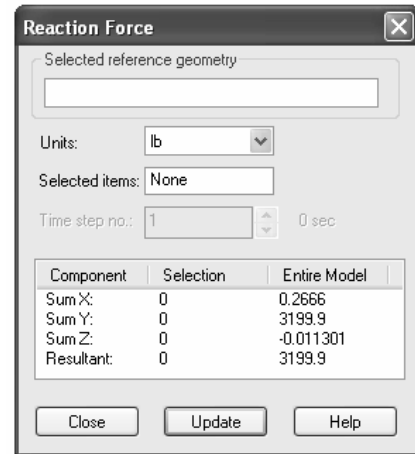

Figure 25 – Data appearing in the **Reaction Force** property manager.
2. From the pull-down menu, select **Reaction Force...** The **Reaction Force** property manager opens as shown in Fig. 25.
It should be noted that a *moment* reaction at the base of the curved beam is missing from the **Reaction Force** window. This outcome is unfortunate, but is consistent with our understanding of **Immovable** restraints applied to three-dimensional, solid, tetrahedral elements. That restraint only restricts translations in the X, Y, Z directions at each restrained node. Thus, only three force reactions in these directions result in Fig. 25.